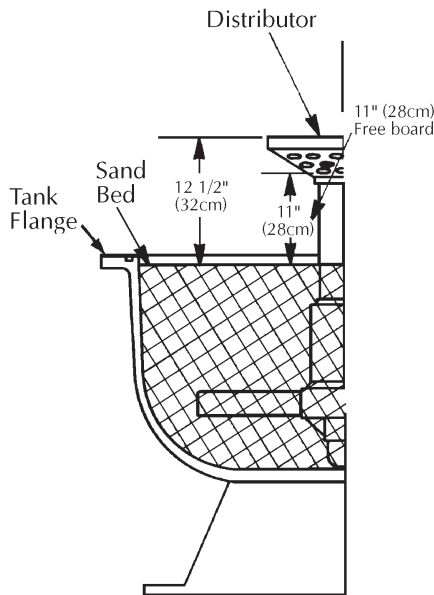

Figure 3 - Fill sand bed as shown.
4. When full, top of sand bed should be about 12-1/2" (31.75 cm) below top of distributor (about 1-1/2" (3.8 cm) below tank flange (see Figure 3).